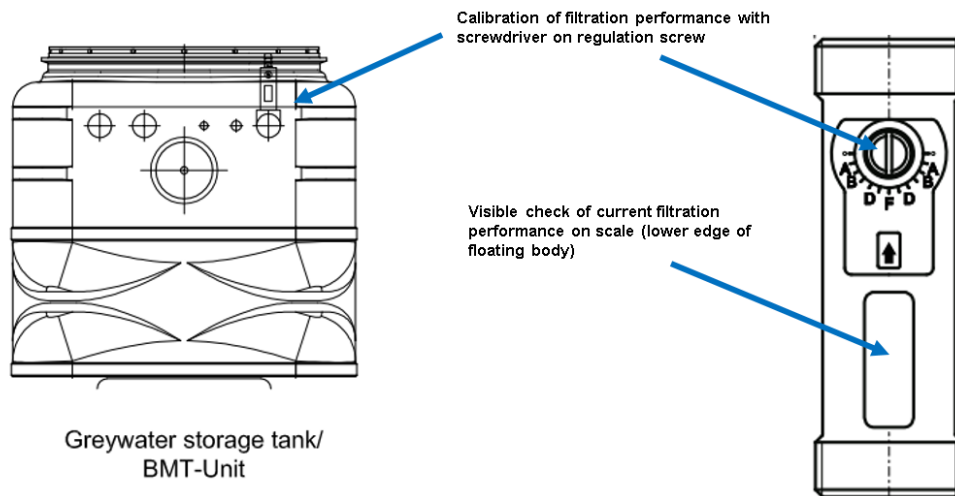

Figure 18: Set-up of filtration performance at Tacosetter
- I. Manual switch into automatic mode by pressing the function key (A) at the control unit.
- III. One-off manual set-up of the filtration flow rate on the Tacosetter of the BMT-unit according to the predefined maximum filtrate flowrate (see sticker attached directly to the Tacosetter). Control the filtration flowrate by visible check at the Tacosetter. Please see Figure 18.